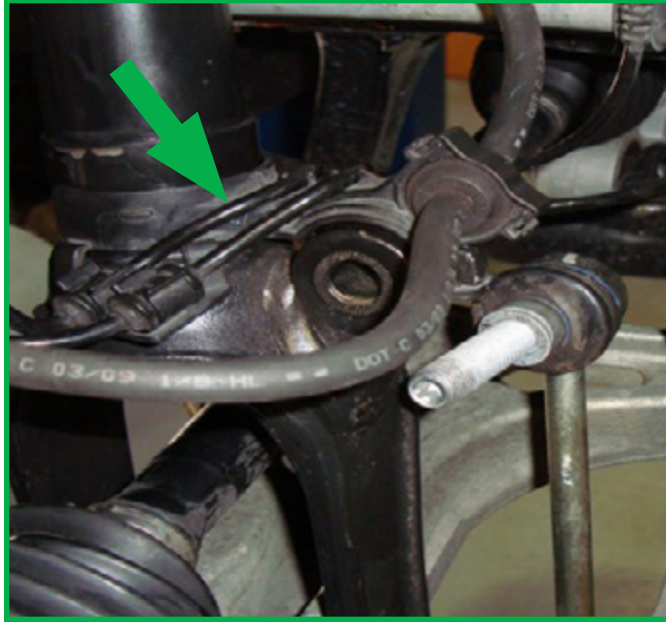

FIGURE 4
6. Cut the cable tie securing the wire harness mount, then remove the wire harness mount from shock. (Figure 4)